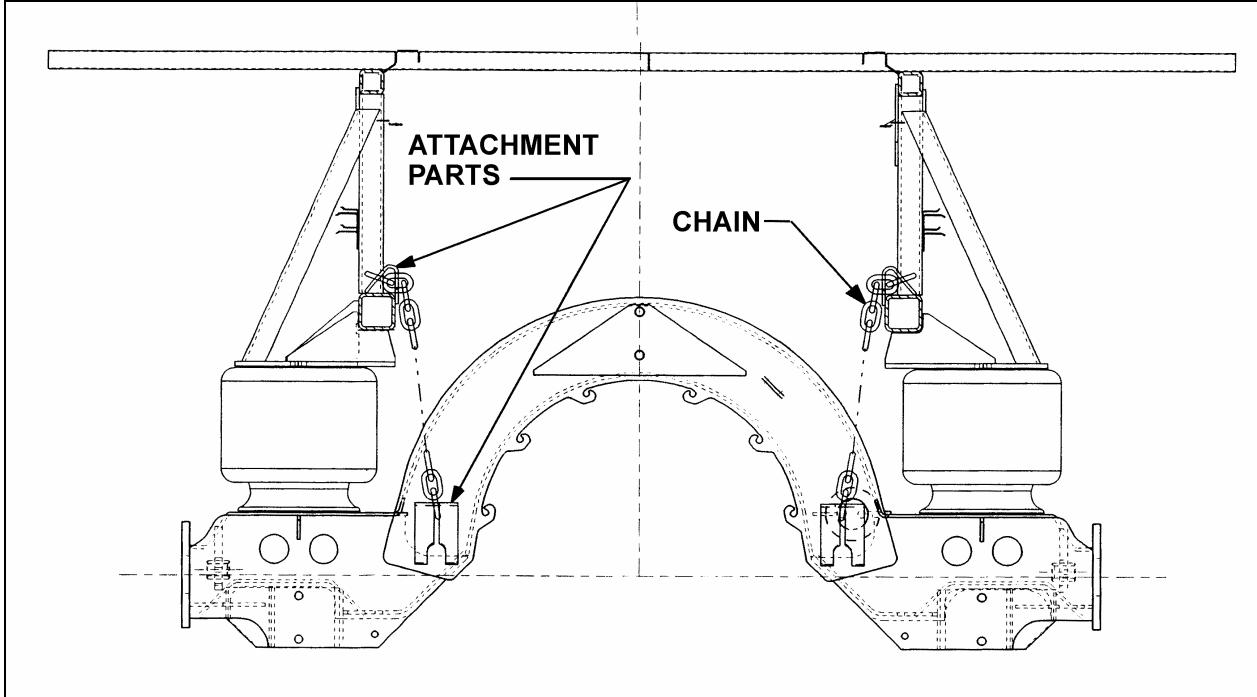

FIGURE 1: TAG AXLE ATTACHMENT USING CHAINS
4. Install chain into attachment parts making sure chain is well in place before removing jacks (refer to fig. 1).